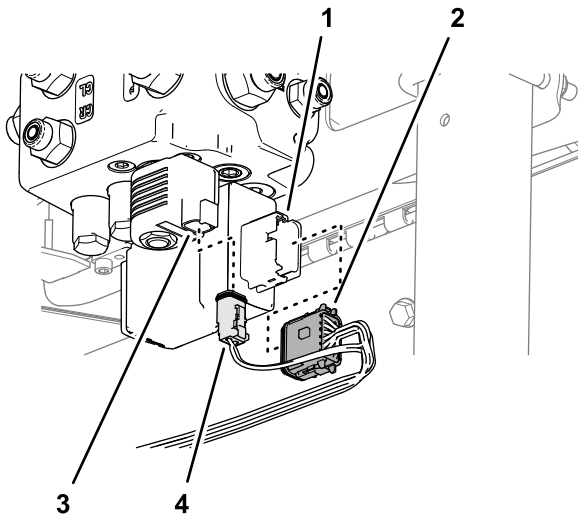

**Figure 82**
- At the front of the machine, route the wire-harness connectors (Figure 82) with the